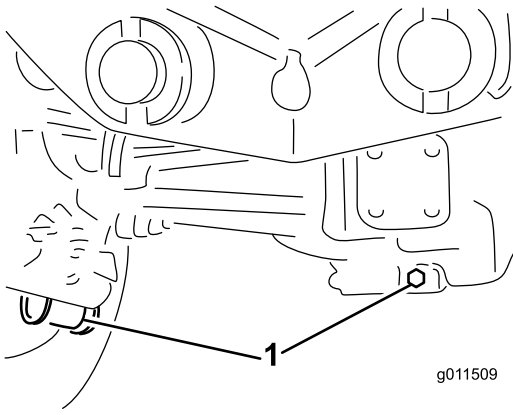

Figure 66
- Clean the area around the 3 drain plugs; 1 on each end and 1 in the center (Figure 66).